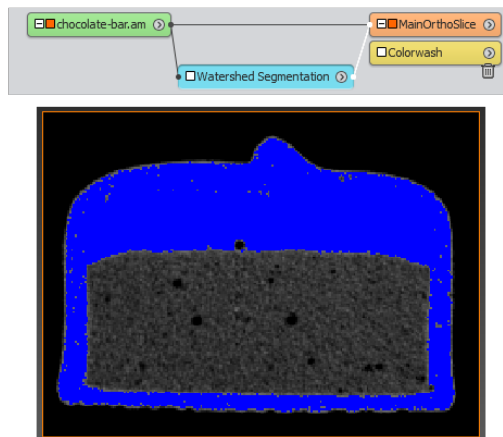

Figure 4.79: The *Watershed Segmentation* wizard at step 6.
- You can use 1041-1910 as range here (see Figure 4.79). The mousse area should be avoided as much as possible.